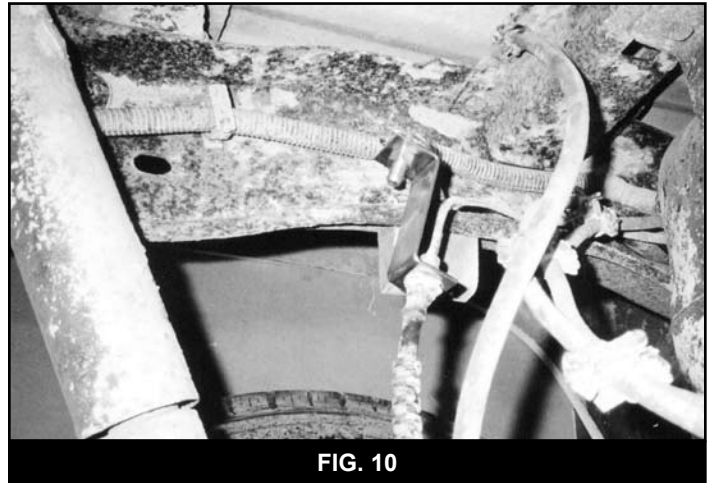

FIG. 10
5. Cut the OE rear brake line bracket, bend it down and remove the rear brake line. Bend the bracket back into place and bolt the new "Z" drop bracket in place with a 3/8" fastener. Attach the brake line to the keyslot in the "Z" drop bracket. (Fig. 10)